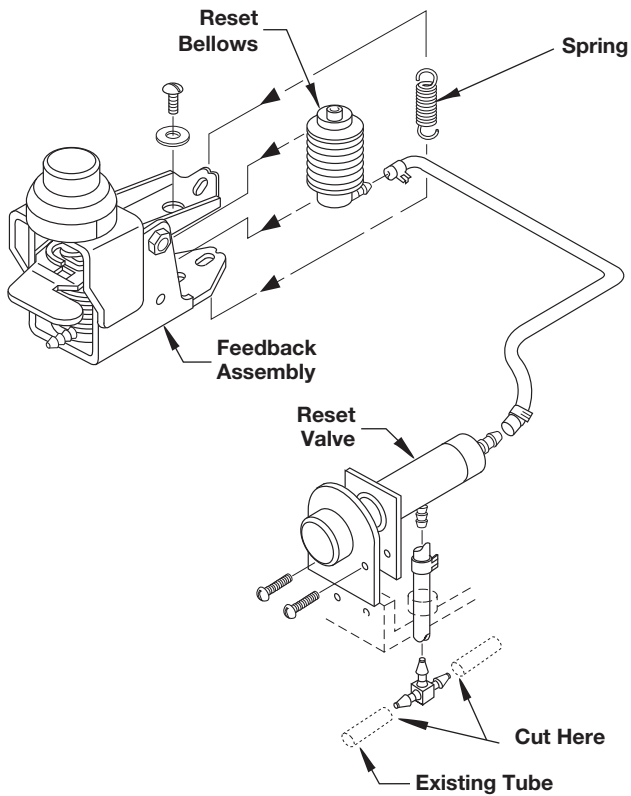

Figure 16
9. Cut the tube adjacent to the barbed tee below the reset valve assembly. Refer to Figure 16.